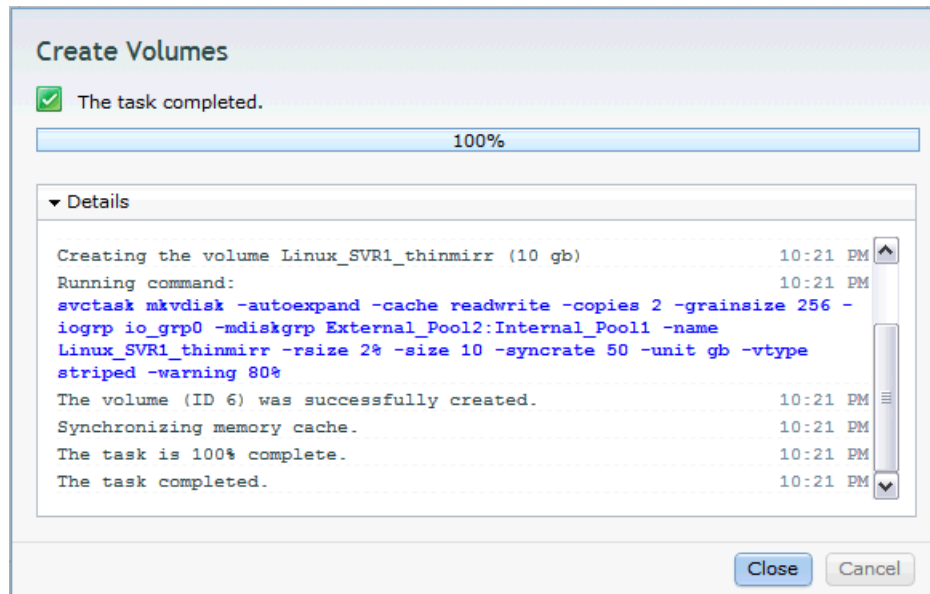

Figure 6-18 Thin Mirror volume creates - CLI command displays
- Click **Create** and the mirrored volume is created (Figure 6-18).